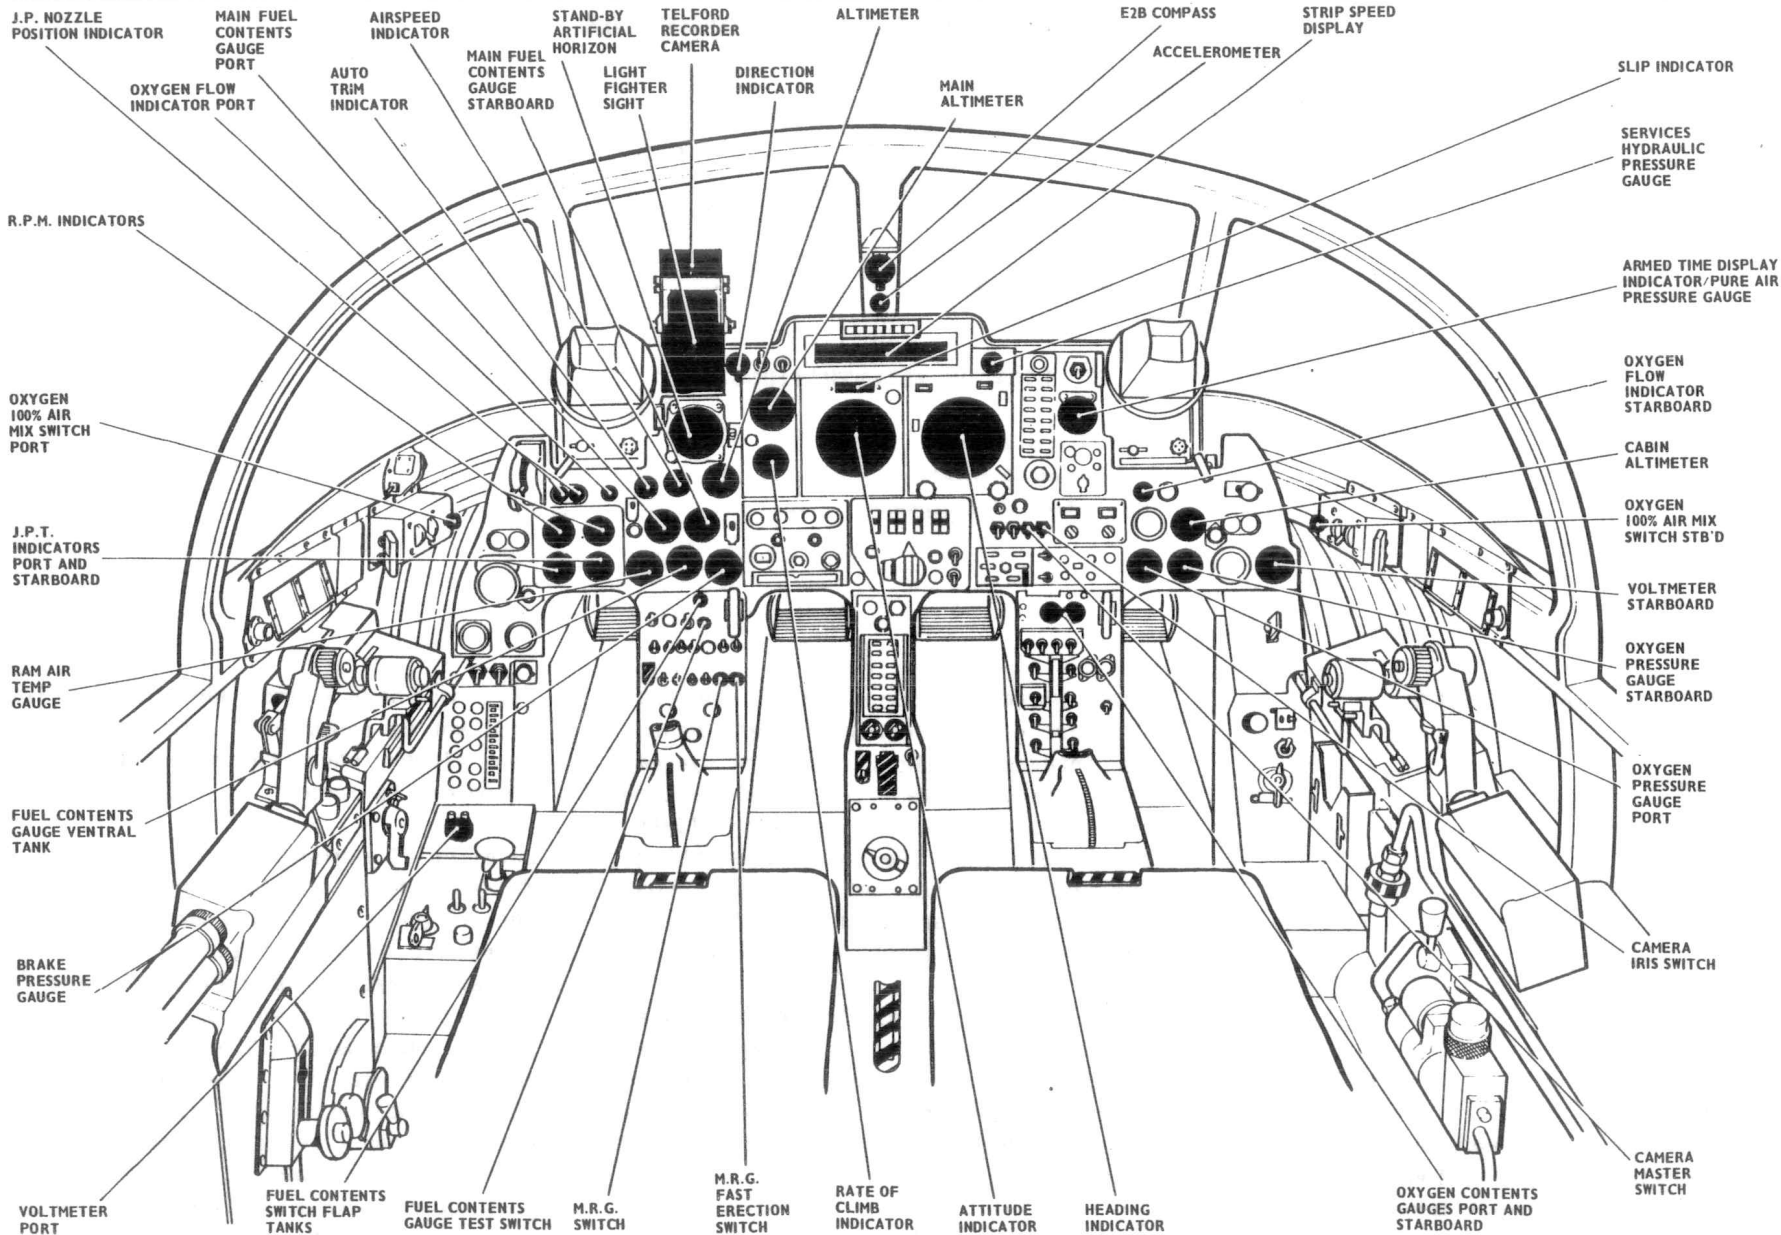

FIG. 1. INSTRUMENT LOCATIONS-COCKPIT
4. All indicating instruments, except the fatigue meter and a number of skin-mounted pressure gauges, used in the hydraulic system for servicing (Sect,2, Chap.2) are mounted in the cabin on panels and consoles. These are arranged, where possible, into functional groups. Those associated with flying and navigation of the aircraft are mounted in a rack assembly located in the centre portion of the main panel A1. The general arrangement of the instruments, indicators, and switches described in the various chapters of this section are shown in fig.1.